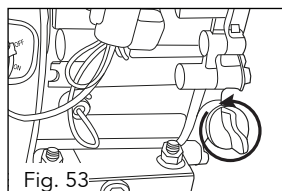

Fig. 53
2. Remove the oil fill cap/dipstick from the side of the engine (fig. 53). Clean the dipstick and re-insert without screwing down.